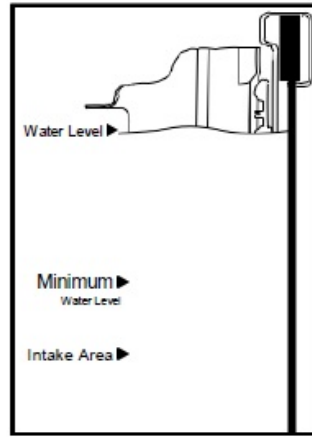
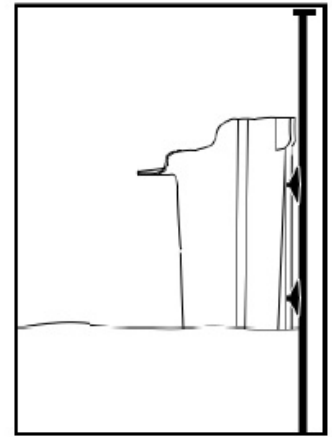

Fig. 4
Fig. 5
4. See diagram for positioning and max and min water levels (Fig. 4). To adjust the height of your filter, simply slide the filter up or down along the hanger track. If you can't position the filter to your desired water level, you may set the filter on a sand-free aquarium bottom or you may need to order suction cups (see spare parts list to order) and set up as shown in Fig. 5.